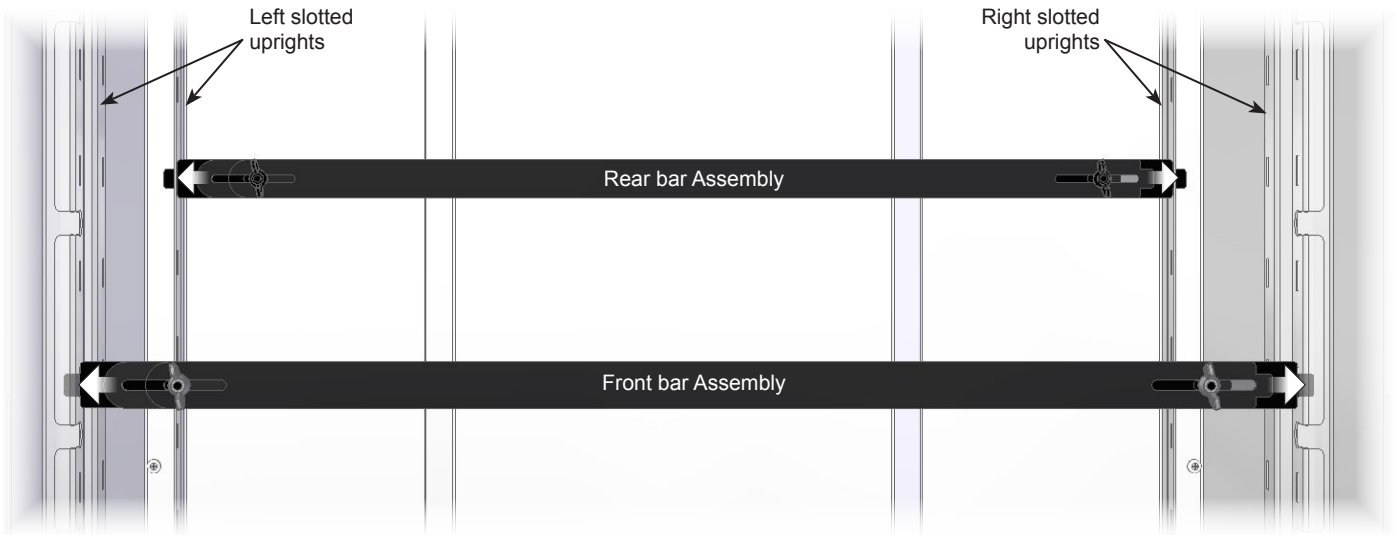

Figure 2
1. Determine the approximate location (height) you would like the module to be mounted. The rear bar is (1) slot higher than the front.
2. Insert one tab into a slot in the left slotted upright. **Figure 2.**
4. Lock the extended position of the bars by securely tightening the (2) wingnuts. Be sure both wingnuts are tight.